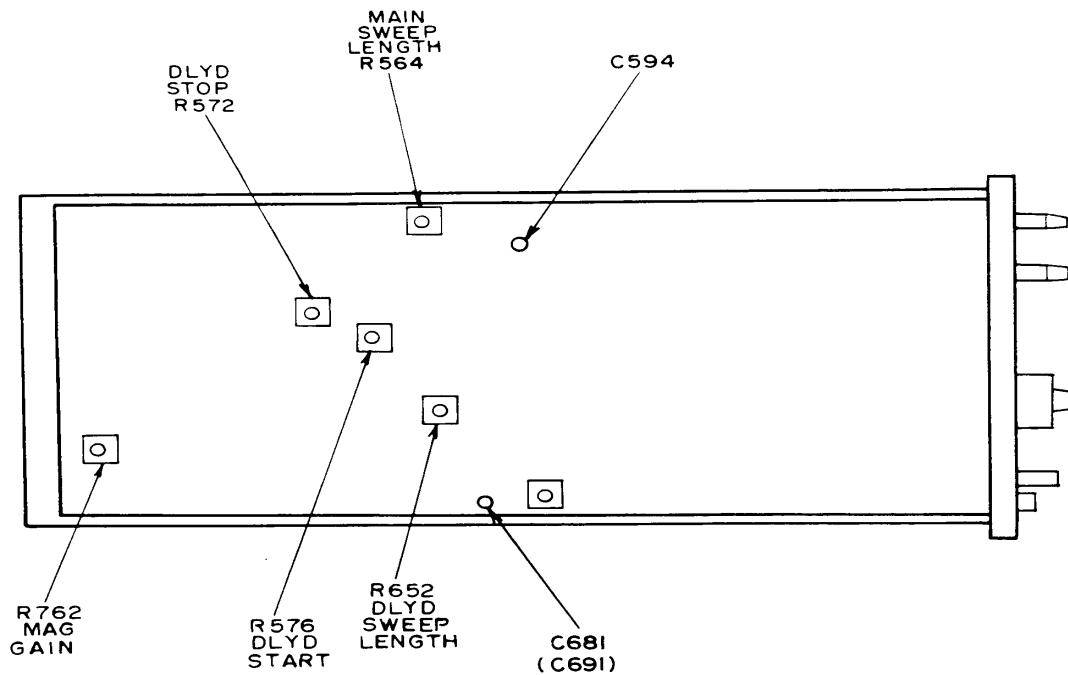

Figure 4. Test instrument - left view.
- (1) Adjust **SWP CAL** (front panel) for 1 marker per division.
- (2) Adjust R564 MAIN SWEEP LENGTH (fig. 4) for sweep length of 10.4 divisions (R).
- (3) Adjust R652 DLY'D SWEEP LENGTH (fig. 4) until both sweep lengths are 10.4 divisions while alternately pulling out and pressing **DLY TIME** switch (R).
- (4) Adjust R762 MAG GAIN (fig. 4) until 1 marker is aligned on each vertical graticule line (R).
(5) Adjust C594 (fig. 4) to align 1 marker on each vertical graticule line over center 8 divisions (R).
(6) Adjust C681 (C691 for Tektronix 7B53A, 7B53AN, and TD-1159/U) (fig. 4) to align 1 marker on each vertical graticule line over center 8 divisions (R).
(1) Adjust **DELAY TIME MULT** dial to **1.0**.
(2) Pull **DLY TIME** switch to **PULL FOR INTENS** and adjust horizontal position control to align one time marker per division division. If intensified portion of sweep displayed on oscilloscope does not start on second time marker, adjust R576 DLY'D START (fig. 4) so intensified portion of sweep starts at second time marker.
(3) Adjust **DELAY TIME MULTI** dial to **9.0**. If intensified portion of sweep does not start on 10th time marker, adjust R572 DLY'D STOP (fig. 4) so intensified portion of sweep starts at 10th time marker.
(4) Adjust **DELAY TIME MULTI** dial to **1.0** and push **DLY TIME** switch to **PUSH FOR DLY'D**. If second time marker does not start at the beginning of delayed sweep, adjust R576 (fig. 4) so second time marker starts at the beginning of delayed sweep (R).
(5) Adjust **DELAY TIME MULTI** dial to **9.0**. If time marker does not start at the beginning of delayed sweep, adjust R572 (fig. 4) so 10th time marker starts at the beginning of delayed sweep (R).